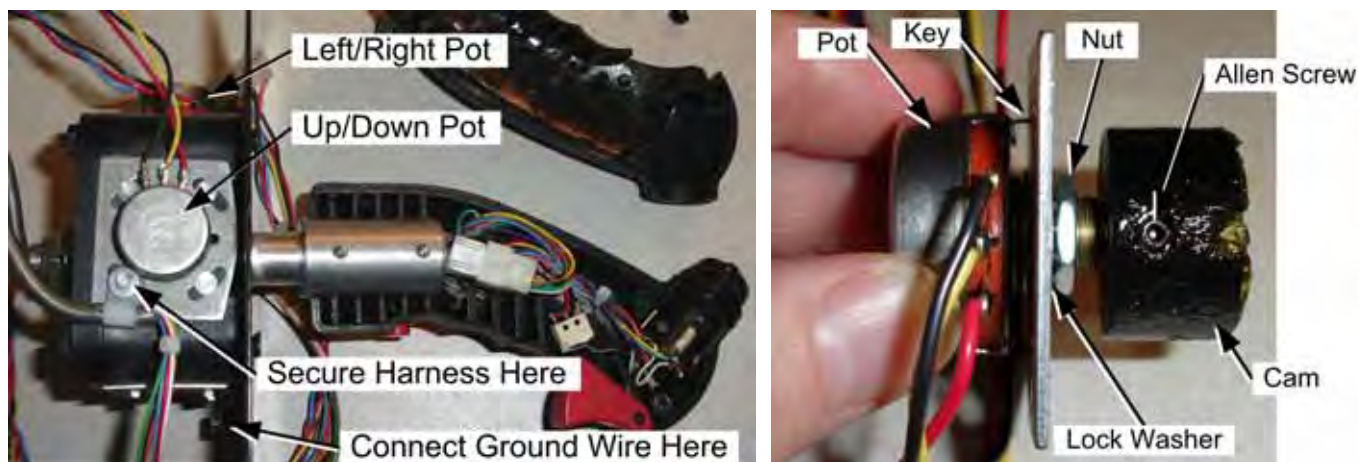

Figure 16. Joystick Assembly Details
1. Remove the four (4) Torx security screws from the left side of the assembly, and remove the left half of the grip assembly (see Figure 16).
The joystick uses two pots (potentiometers) to relay its position to the software. Refer to Figure 16 and perform the steps below to replace a pot. See page 53 for an exploded-view drawing.
2. Determine which pot to replace. The pot on the side reads the Up/Down motion. The pot on the front reads Left/Right, as shown in Figure 16.
has a small metal tab (key) that fits into a small hole in the plate. One of the mounting screws is also used to secure the joystick harness, as shown in Figure 16.